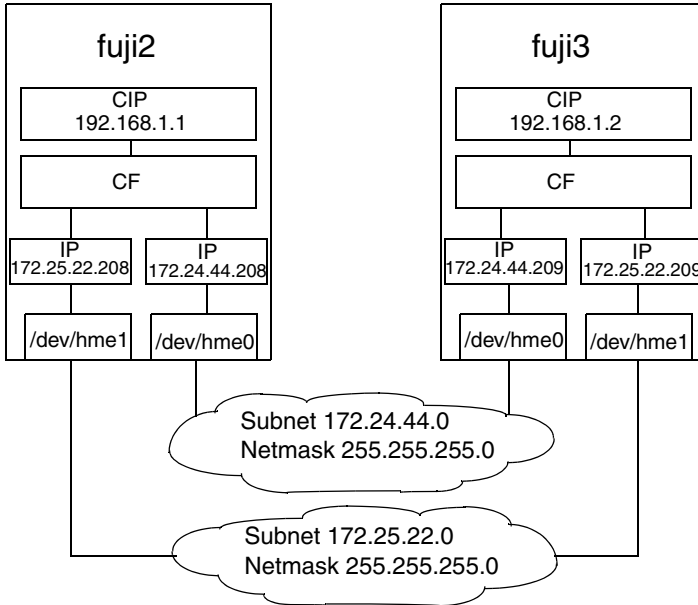

Figure 2: CF over IP diagram
- i** Use CF with the Ethernet link-level connection whenever possible because CF over IP implies additional network/protocol information and usually will not perform as well (see Figure 2).